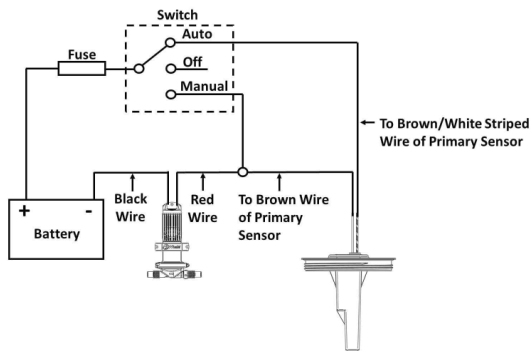
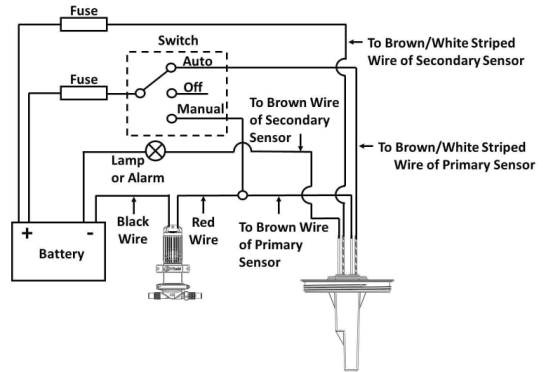
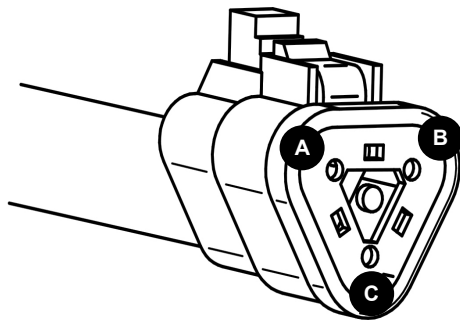

Figure 1A Wiring Diagram - For Single Sensor Models
Figure 1B Wiring Diagram - For Double Sensor Models
Figure 1C AK1006 / AK1007
- **WARNING:** Installation **must** be carried out by a qualified electrician. Improper wiring can cause a fire resulting in injury or death. Suggested wiring information (Figure 1A and Figure 1B) is given as a guide only, and wiring **must** comply in accordance with the applicable electrical standards. Appropriate size fuses or circuit breakers **must** be installed.
Wiring: See Figure 1A or Figure 1B. For AK1006 and Ak1007 see also Figure 1C.